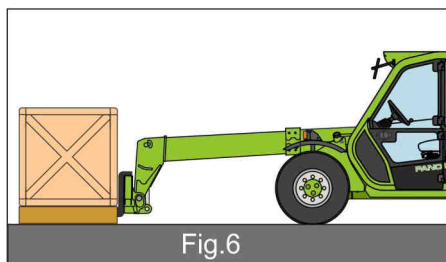

Fig.6
- extend the boom, bring the forks under the load and lift it a few centimetres (Fig.6)